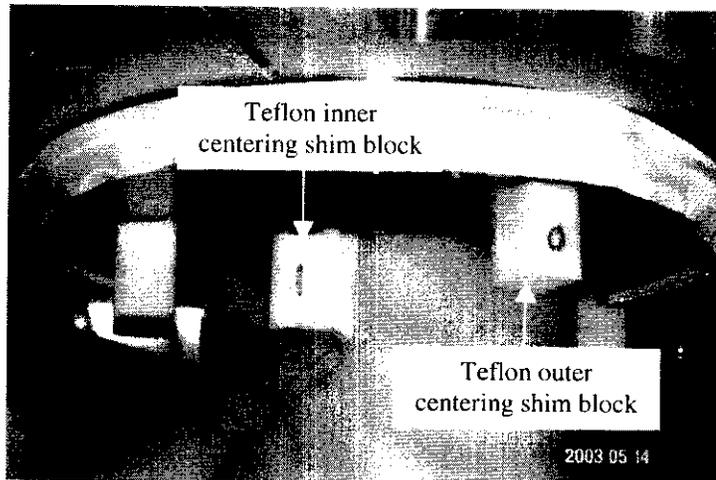

Figure 1.23 The installed Teflon centering shim blocks.
- 1.23 Center the lower end of the lead in the chimney using the centering shim blocks. The Teflon inner centering shim blocks are labeled with an 'I' and go between the power lead and the lower insulator. The Teflon outer centering shim blocks are labeled with an 'O' and go between the lower insulator and the chimney. The installed Teflon centering shim blocks are shown in Figure 1.23.